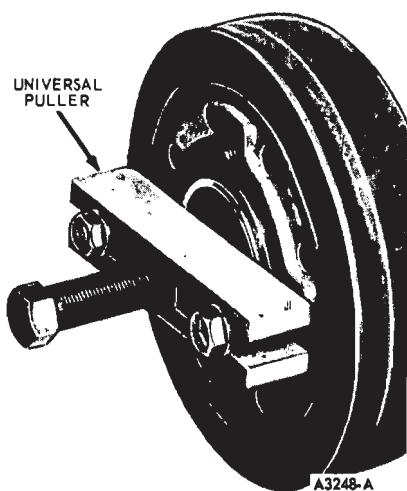

FIG. 33—Removing Crankshaft Vibration Damper
6. Remove the crankshaft pulley from the crankshaft vibration damper. Remove the damper attaching screw and washer. Install the puller on the crankshaft vibration damper (Fig. 33) and remove the vibration damper.